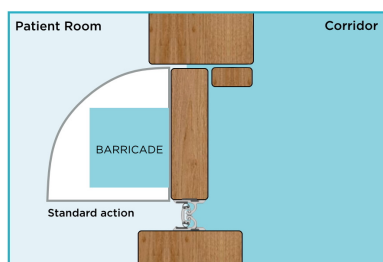

Figure 12.5 - Door barricaded by patient
- **Dual Swinging Door with Detachable Stop** – This is where a single leaf door is installed with a double swinging hinge. During normal use the hinge allows the door to swing inwards however the detachable stop mounted on the frame prevents the door from swinging outward. If a barricade is attempted the stop can be detached which then allows the door to swing outward, enabling staff access to the room. Refer Figures 12.5, 12.6 and 12.7.